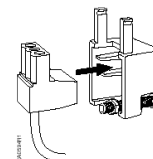

Figure 3.
4. Insert the terminal plug into the terminal connector. See Figure 3.